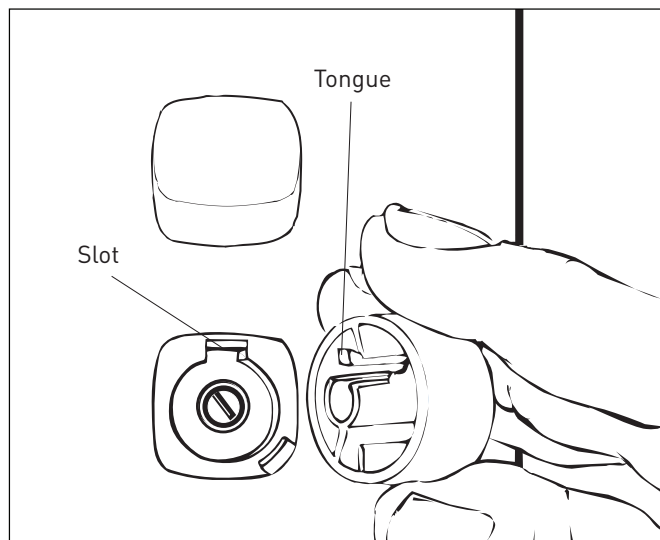

Fig 5. Setting minimum brightness
- Insert the knob so that the "tongue" on the knob lines up with the slot on the dimmer (see Fig 5).